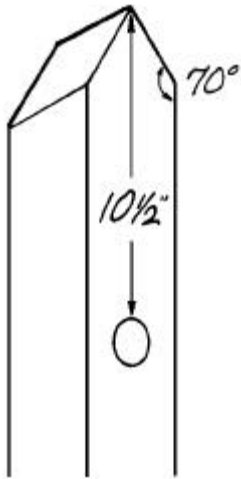

Figure 8
1. Cut the upper end of each Support piece (C) into a peak as shown in Figure 8. Center and drill a 13/16-inch-diameter hole 10-1/2 inches from the peak end of each Support piece (C).